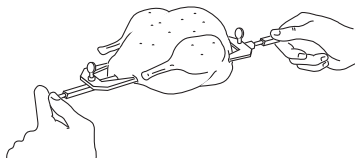

fig. 2
- Place the food on the spit (I) and hold it firm using forks (fig. 2) (for best results, tie the meat using kitchen string).